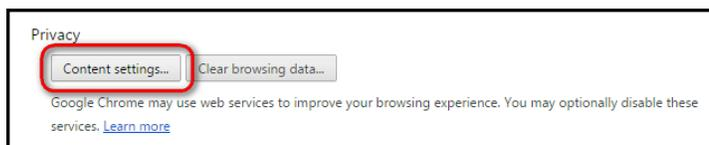

Figure 4: Content Settings
3. Under **Privacy**, click **Content Settings....** See Figure 4.